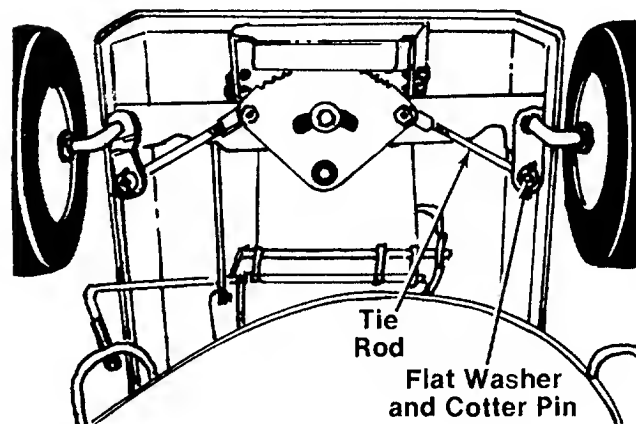

FIGURE 27.
The caster (forward slant of the king pin) and the camber (tilt of the wheels out at the top) require no adjustment. Automotive steering principles have been used to determine the caster and camber on the mower. The front wheels should toe-in $\frac{1}{8}$ inch. See figure 27. To adjust, follow these steps:
1. Remove the cotter pin and flat washer which hold the tie rod to the axle bracket. See figure 27.